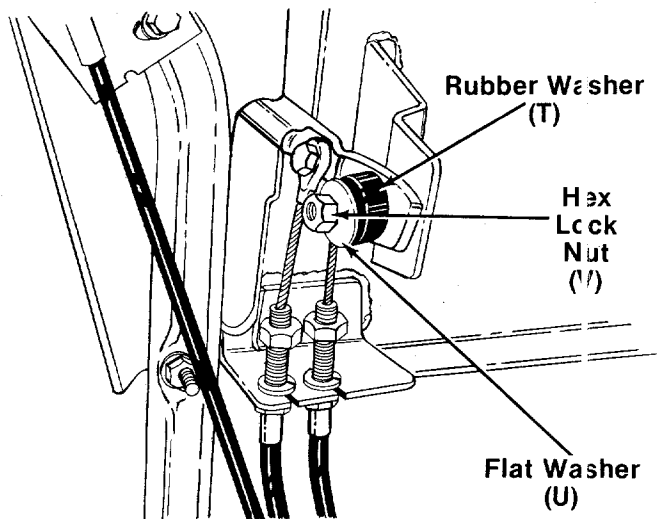

FIGURE 13.
6. Secure drive clutch lever to weld bolt with rubber washer (T), flat washer (U) and hex lock nut (V). See figure 13. Tighten hex nut.
7. Place the drive clutch lever in the neutral (N) position. Adjust the cables at the cable bracket so that the cables are tight, then tighten the hex nuts against the cable bracket.